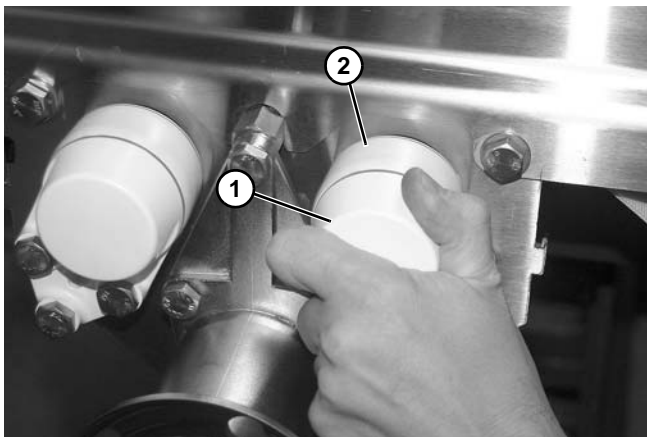

Figure 92
14. Remove bearing cap (Figure 92, item 1) on each roller bearing housing (Figure 92, item 2).